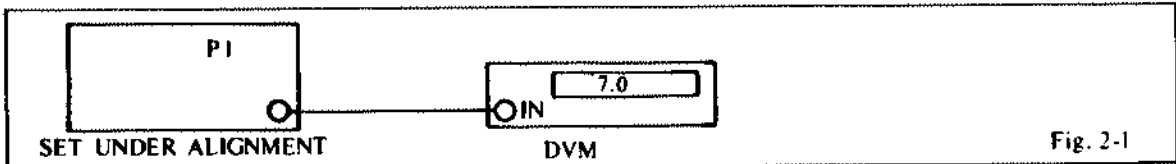

Fig. 2-1
- b. Set up the test equipment as Fig. 2-1.